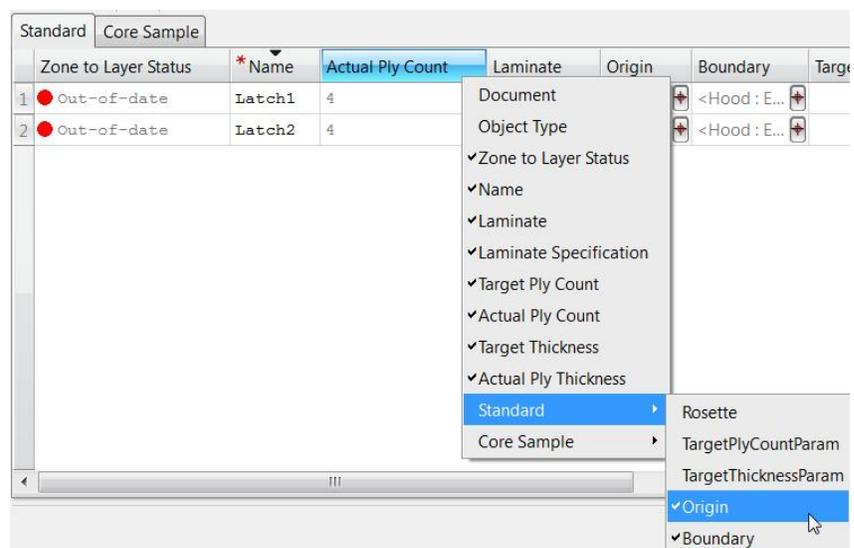

Figure 9–17
8. Right-click on one of the columns and turn on **Origin** and **Boundary** columns as shown in Figure 9–17.